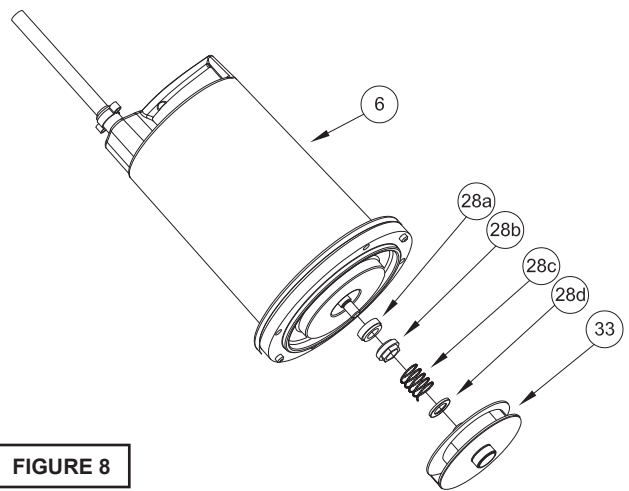

FIGURE 8
Inner Seal (DS Units Only) - To expose inner shaft seal (28) for examination, remove outer seal as outlined above. Remove socket head cap screws (64). Lift outer seal plate (29) and square-ring (27) from inner seal plate (5), see Figure 8. If further repair is required, remove snap ring (32), retaining ring (28d), spring (28c) and rotating member (28b) from shaft. Examine as outlined in outer seal paragraph. If replacing seal, remove stationary (28a) by prying out with flat screwdriver.